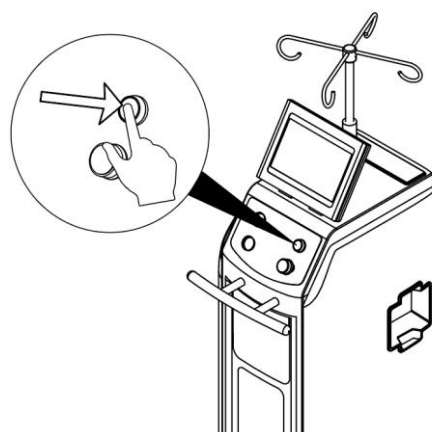

Figure 38 To cease the current wash Cycle
- To exit the current wash cycle, push the “Stop Suction/Stop Docking” button to terminate the current a wash cycle and the rover detaches from the docker automatically (Figure 38). Pull the rover away from the docker. And dock again, select the needed wash cycle.